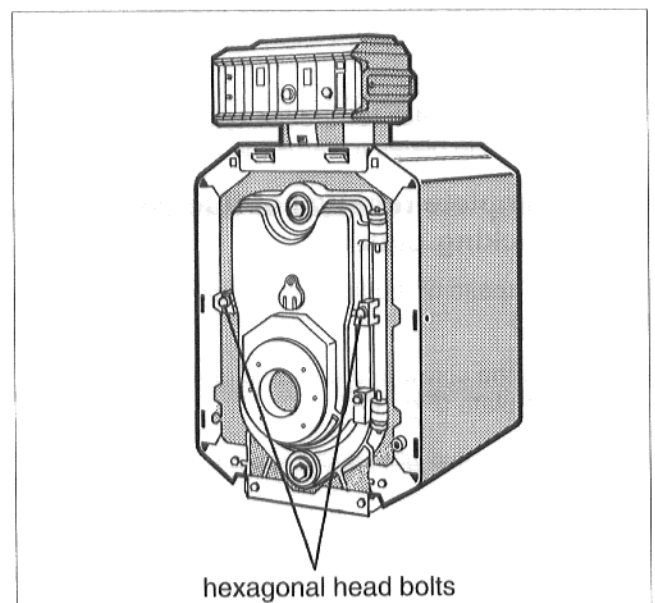

Fig. 27
- Unscrew the hexagonal head bolts (Fig. 27) on the left and right of the burner door. Swing the burner door open.
- Close the burner door and tighten both hexagonal head bolts (Fig. 27) evenly.